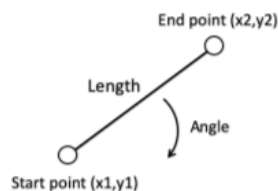

Figure 2. Parameters of a segment
2. Segments: A segment is a rigid member connecting two joints. As shown in Figure 2, a segment has the following parameters: